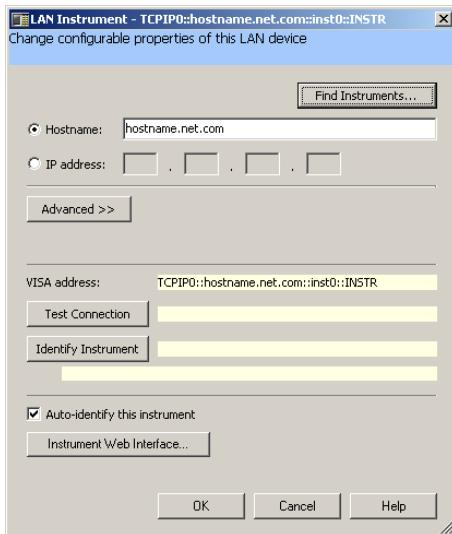

Figure 11 Editing Properties in the LAN Instrument Dialog Box
- 4 When the *LAN Instrument configuration* dialog box appears, as shown in Figure 11 below, select and edit either the IP address or the Hostname. With either choice, you will also need to enter the remote name for the instrument.